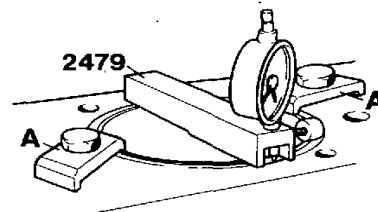
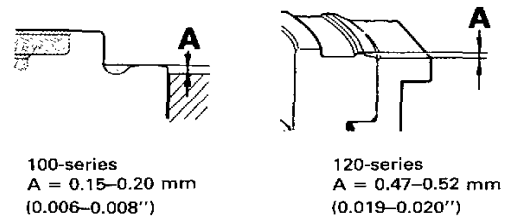

Fig. 49. Checking cylinder liner height
Fig. 50. Cylinder liner height above the cylinder block face
If the cylinder liner is to remain on the engine when the piston is removed, the holders 2666 (100-series) or 2667 (120-series) must be fitted so that the liner is not disturbed in its recess, see fig. 49. If the liner should slide up when the piston is being removed, then it too should also be removed since there is a great risk that deposits etc. can fall down between the liner and the block and cause leakage.
- Measure the liner height (dimension "A" in fig. 50) using a dial indicator and holder 2479 (fig. 49). The measurements should be made at four diametrically opposite points. Check that the block surface is not damaged when zero setting the dial indicator. Set the dial to zero with the pointer sliding on the surface of the block. Transfer the indicator to the liner flange stepped edge.